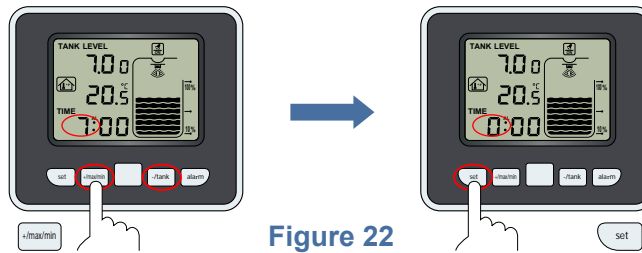

Figure 22
Press **set** key 3 seconds to set alarm hour. Alarm hour will flash. Press **+max/min** or **-/tank** key to increase or decrease alarm hour (Figure 22).